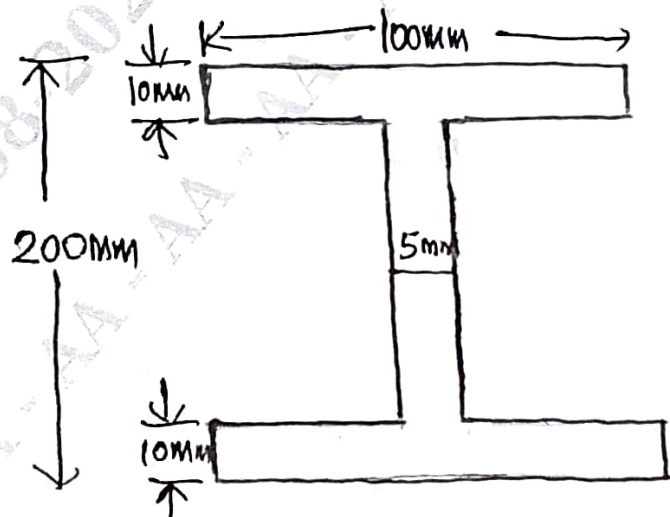

Fig. Q5 (c)
c. A Cast Iron bracket of I section with equal flanges is shown in Fig. Q5 (c). The beam carries an udl of 10 kN/mt on a span of 10 mts. Determine the position of neutral axis, MI about NA and maximum stress distribution. (08 Marks)